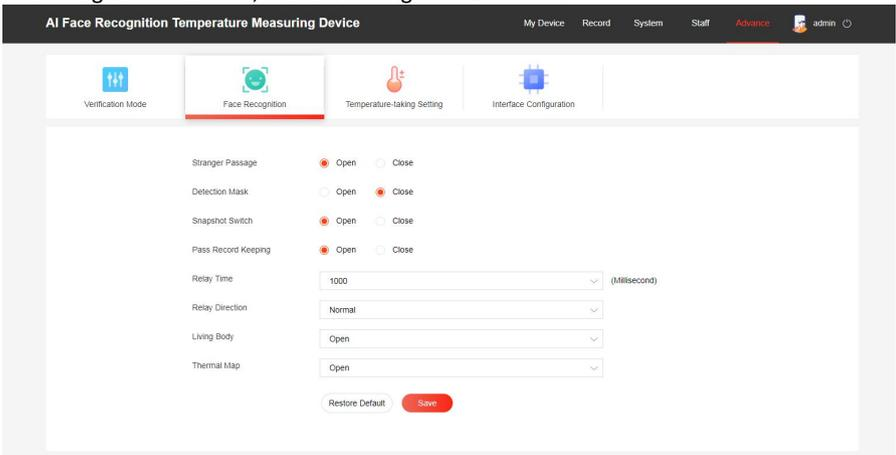

Figure 7-24
Step 1: After logging in to the web page, click "Advance → Face Recognition" to enter the face recognition interface, as shown in Figure 7-24 below.